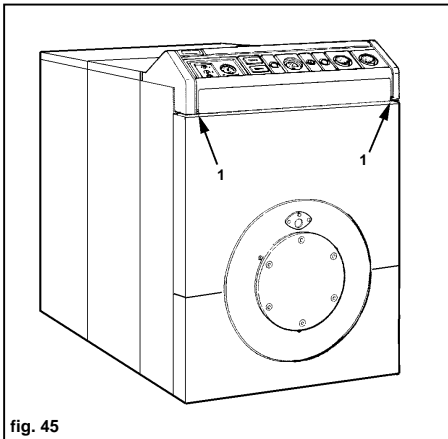

fig. 45
**31** (fig. 45) Close the instrument control panel and secure it with the two self-tapping screws "1".